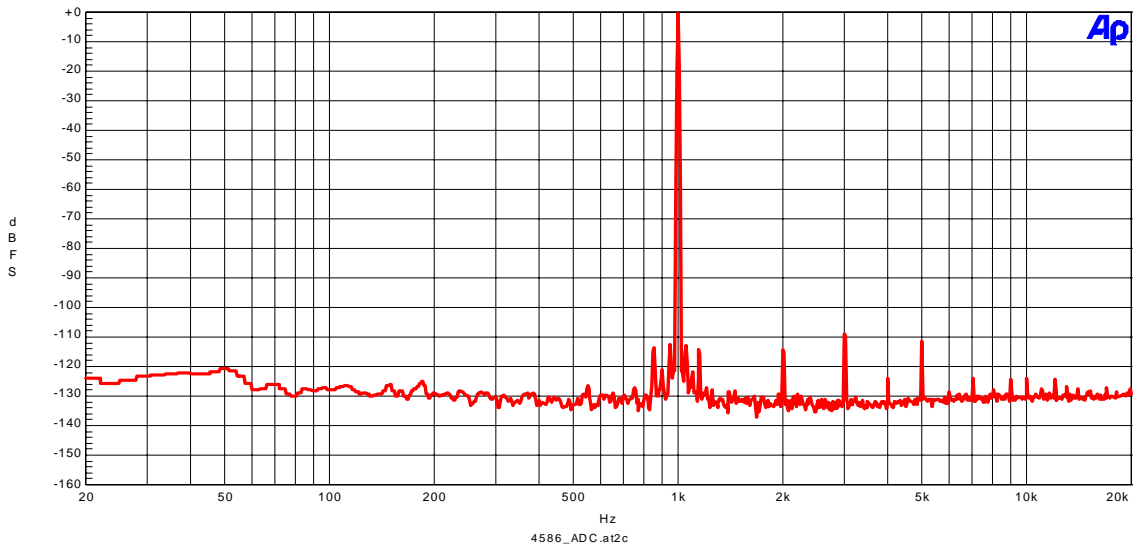

Figure 1-1. FFT (1kHz, -0.5dBFS input)
- Figure 1-1. FFT (1kHz, -0.5dBFS input)